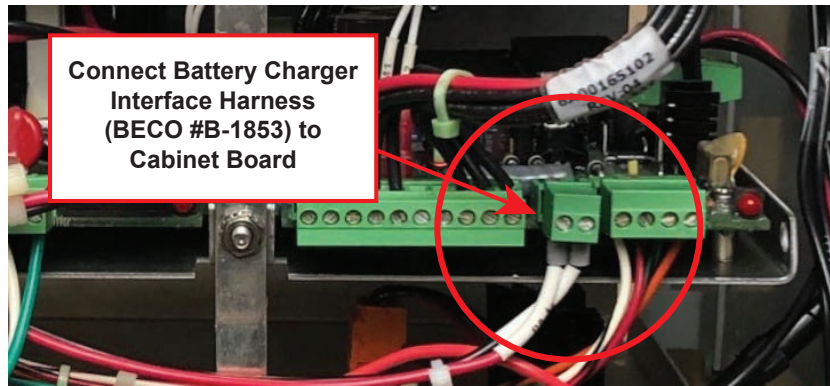

Figure 22 Connect Battery Charger Interface Harness to Eaton Cooper Cabinet Board
4. Connect the pre-installed Battery Charger harness (BECO #B-1853) from the M-2406 to the existing board in the Eaton Cooper cabinet. This harness connects to the open plug where the Eaton Cooper Battery Power harness was removed (Figure 22).